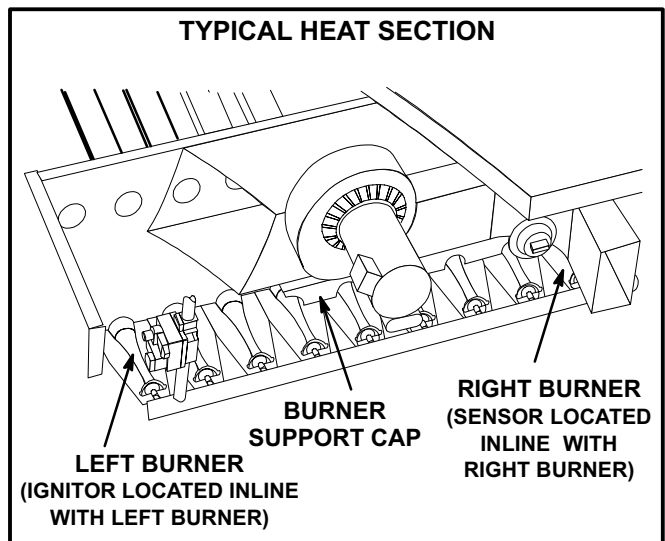

FIGURE 19
- 1- Loosen four screws and remove burner support cap. See figure 19.